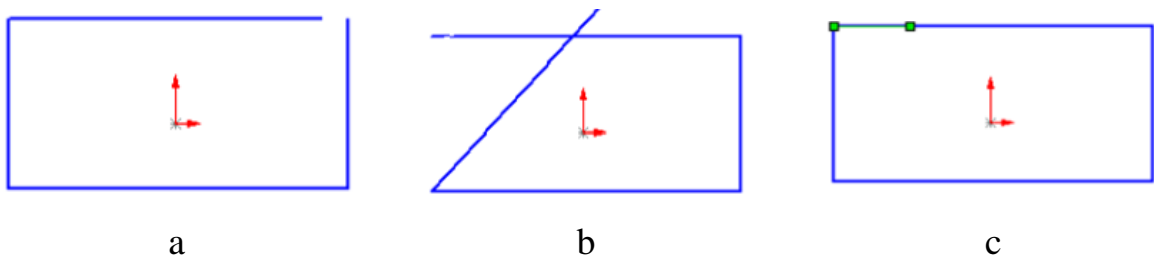

Fig. 2.3. Sketch requirements
1. When constructing a sketch, ensure that the sketch has a closed contour (fig. 2.3, a), there are no intersections between sketch elements (fig. 2.3, b), and there are no overlapping elements (such as surfaces drawn over others) (fig. 2.3, c).